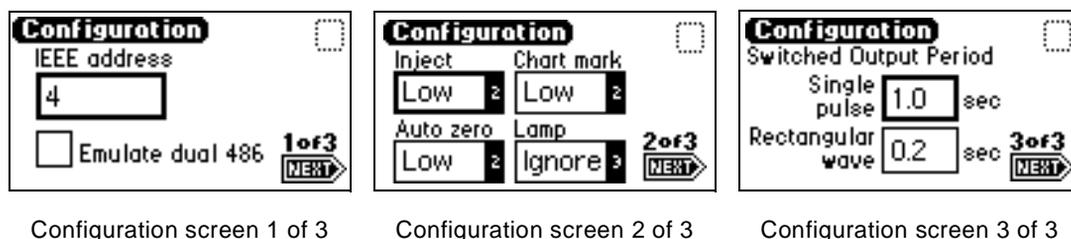

Figure 3-9 Configuration Screens
Press the **CONFIGURE** key (**Shift DIAG**). The first of three Configuration screens appears (Figure 3-9).
There are four editable entry fields on the second Configuration screen (Figure 3-9):
You use the third Configuration screen (Figure 3-9) to set pulse or signal width or to activate a pulse or rectangular wave on SW1 or SW2.
- The IEEE address is an even-numbered address from 2 to 28 (Figure 3-9). The detector assigns the next consecutive address to the “second” 486 Detector.